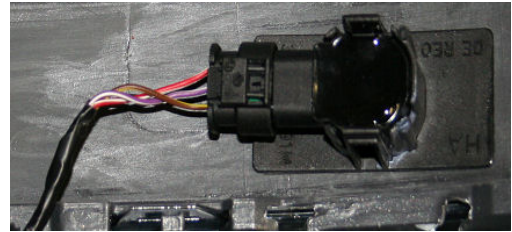
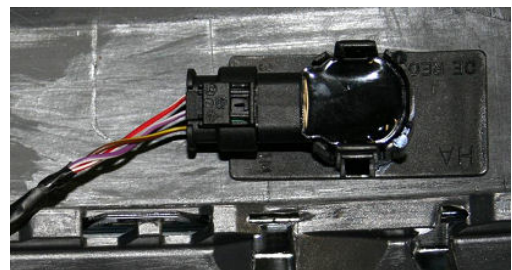

Figure 10. A correctly installed cable with sufficient length.
Figure 11. A sensor cable with insufficient length.
12. Check the cables in the bumper for damage and sufficient length (Figure 10, Figure 11). Cables that are too short can cause damage to the harness.